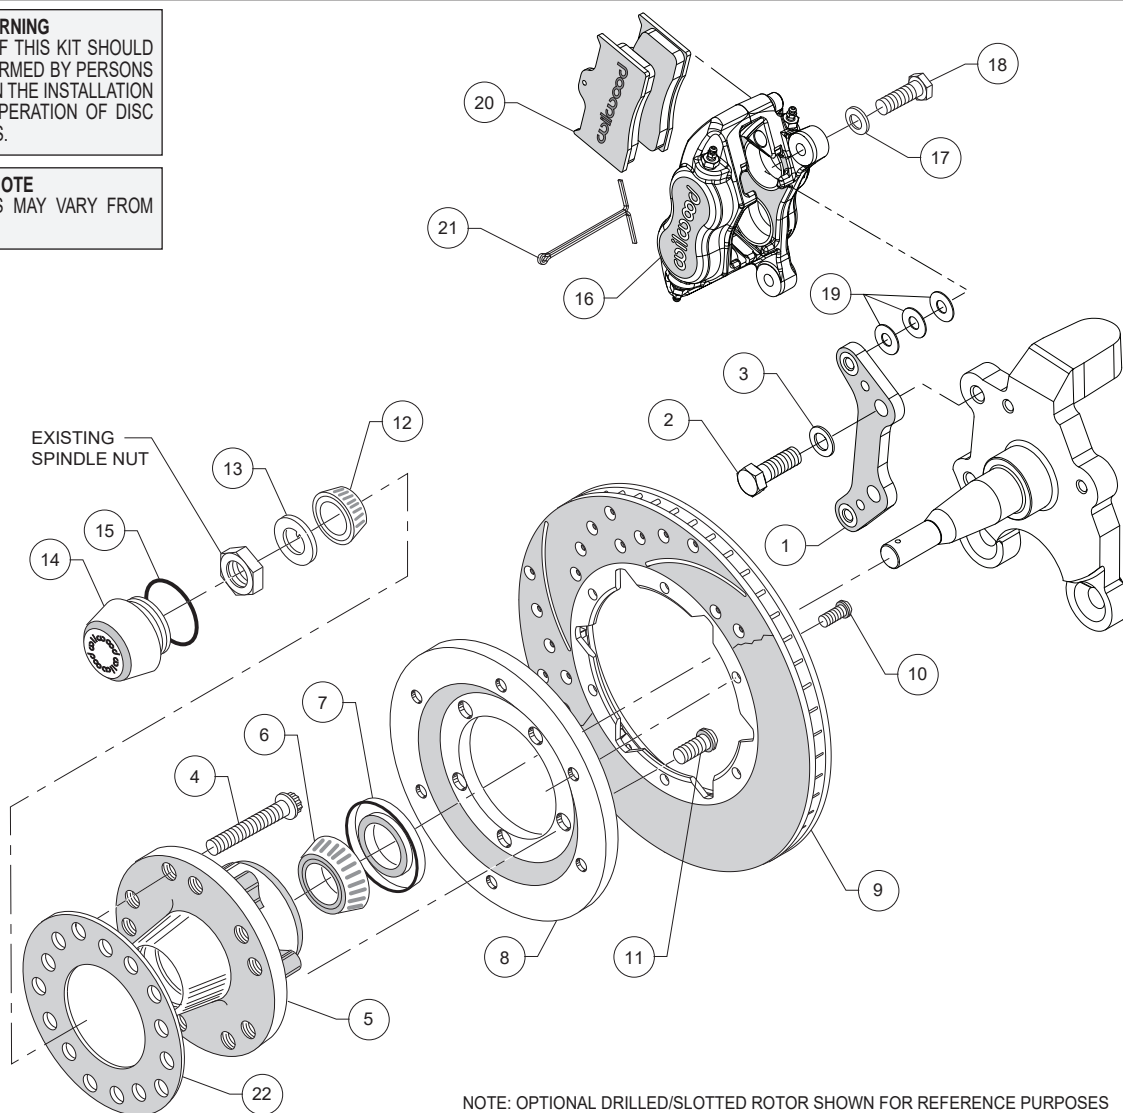

Figure 1. Typical Installation Configuration
Assembly Instructions (numbers in parenthesis refer to the parts list, on the preceding page and Figure 1): **CAUTION:** All mounting bolts must fully engage clinch nuts. Be sure to check that all bolts are either flush or protruding through flanged side of clinch nut after shimming, Figure 3.
- Align caliper mounting bracket (1) with the corresponding holes, to the face of the spindle. Attach using bolts (2), and washers (3), as shown in Figure 1 and Photo 1. Temporarily tighten the mounting bolts. Ensure that the flanged heads of the clinch nuts in the bracket are facing outboard, Photo 1. **NOTE:** The bracket must fit squarely against the mounting points on the spindle. Inspect for interference from casting irregularities, machining ridges, burrs, etc. Remove bolts one at a time, apply red *Loctite*® 271 to threads and torque to 77 ft-lbs.
- Orient the rotor (9) and the rotor adapter (8) as shown in Figure 1 and Photo 4. Attach the rotor to the adapter using bolts (10). Using an alternating sequence, apply red *Loctite*® 271 to the threads, and torque to 25 ft-lb.
- Mount the adapter/rotor assembly (8/9) to the hub (5) using bolts (11), as shown in Figure 1 and Photo 5. Using an alternating sequence, apply red *Loctite*® 271 to the threads, and torque to 45 ft-lb.
- NOTE:** Please reference the caution statement at the beginning of the assembly instructions. Mount the caliper (16) onto the caliper mounting bracket (1) using bolts (18) and washers (17), as shown in Figure 1. Initially place three .035" thick shims (19) on each bolt between the caliper and the bracket, Photo 8. Temporarily tighten the mounting bolts and view the rotor (9) through the top opening of the caliper. The rotor should be centered in the caliper, Photo 9. If not, adjust by adding or subtracting shims between the bracket and the caliper. Always use the same amount of shims on each of the two mounting bolts. **NOTE:** The end of each bolt must be flush with or slightly protruding from the head of the clinch nut, as shown in Figure 3. If necessary place spare shims between washer (17) and caliper mounting ear to achieve the proper clinch nut engagement. Once the caliper alignment and clinch nut engagement are correct, remove the bolts one at a time, apply red *Loctite*® 271 to bolt threads, and torque to 40 ft-lb.